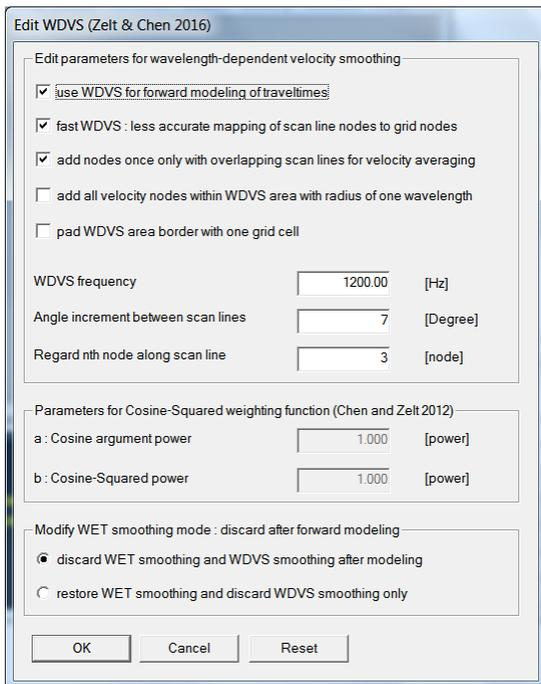
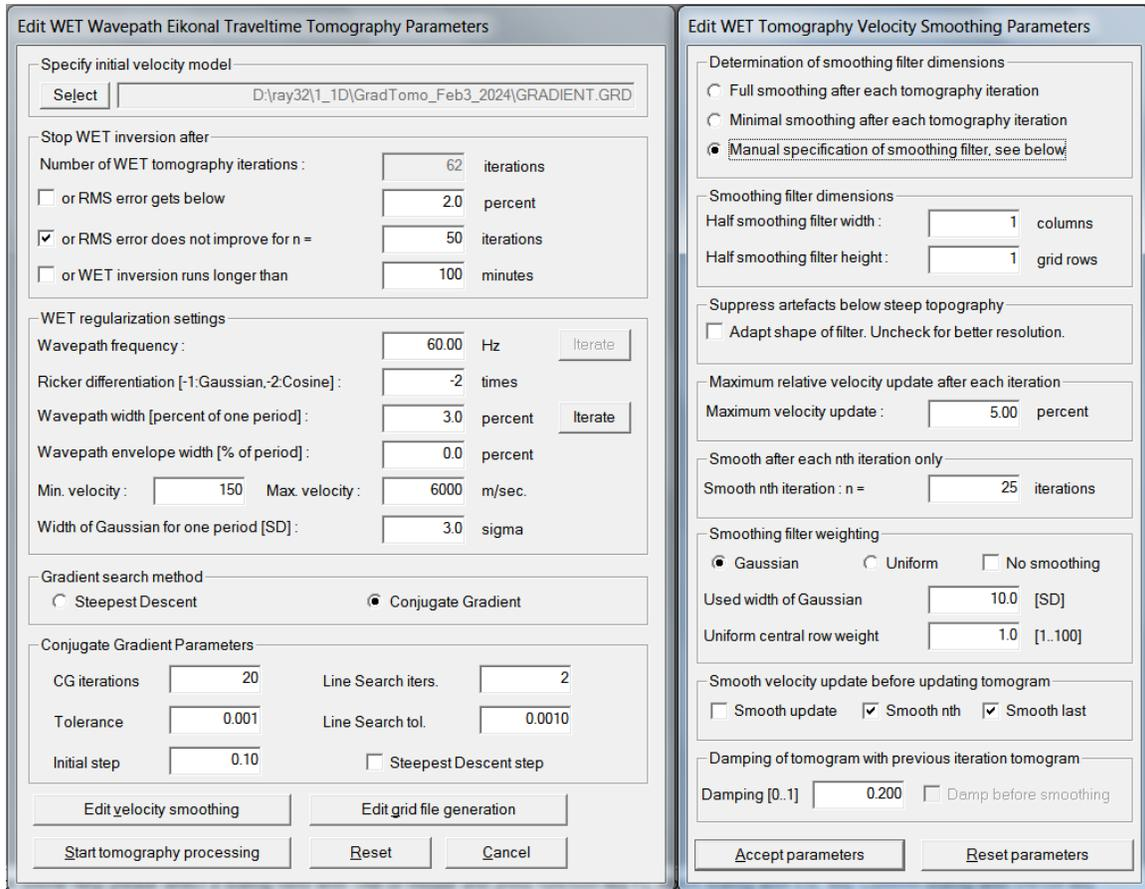

Fig. 22 : **Model|WDVS Smoothing**. Enable WDVS@1200Hz. Discard WET smoothing and WDVS smoothing after forward modeling.
Fig. 23 : **WET Tomo|Interactive WET** main dialog (left). Edit velocity smoothing (right).
- select *Model|WDVS Smoothing*. Edit as in Fig. 22 and click *OK* button.
- select *WET Tomo|Interactive WET tomography* and edit as in Fig. 23
- set *WET Tomo|Interactive WET tomography|Ricker differentiation* to -2 [Cosine-Squared] (Fig. 23)
- set *Min. velocity* to 150 m/s & *Max. velocity* to 6,000 m/s. See Fig. 23 (left).
- click **Edit velocity smoothing**. Check **Manual specification of smoothing filter** . See Fig. 23 (right).
Fig. 19 : multiscale Conjugate-Gradient WET inversion. Output of 10th WET run shown. Starting model for first run is 1D-gradient initial model shown in Fig. 17. WDVS enabled at 1200Hz. Discard WET smoothing after forward modeling (Fig. 22). 10 Conjugate-Gradient WET runs (Fig. 7) with 20 Conjugate-Gradient iterations per run (Fig. 23). Ricker differentiation -2 : Cosine-Squared WET update weighting. Minimized WET smoothing (Fig. 23). Surfer plot limits as in Fig 24.